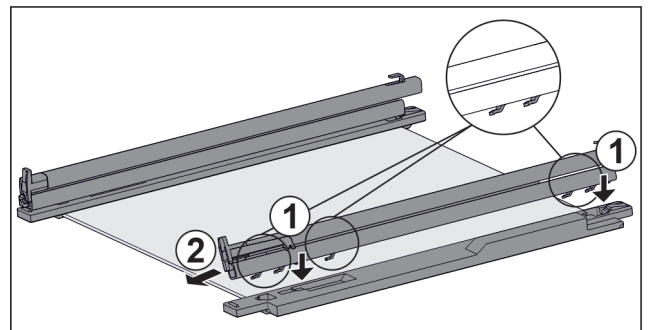

Fig. 49 Glass shelf with rails and retaining parts
- ▶ Place rail hooks onto the openings of the **left** retaining part. Fig. 49 (1)
- ▶ Push rail forwards. Fig. 49 (2)
- ▶ Place rail hooks onto the openings of the **right** retaining part. Fig. 49 (1)